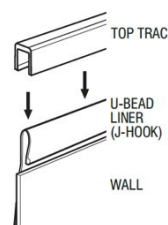

FIGURE 3
10. **This step is only followed if your liner is manufactured with a Universal Bead that's installed with bead receiver as a snap-in beaded liner (see Figure 3) – Bead Receiver Track is not included with the vinyl liner or swimming pool kit.** The only difference while following steps 8 and 9 will be that you need to insert the bead section of the liner into the bead receiver track instead of hanging the J-hook section of the liner onto the top of the pool wall. The bead section of the liner will need to snap into the bead receiver track in order to be secured properly.